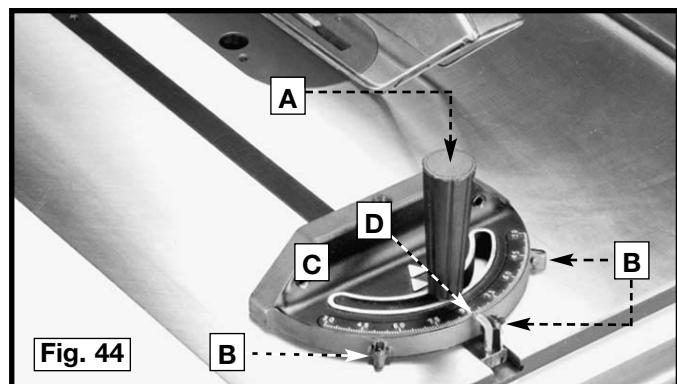

Fig. 44
NOTE: You can store the hex wrenches in the miter gauge handle when not in use. Remove the top cap (A) Fig. 44 for storage.
To rotate the miter gauge, loosen the lock knob (A) Fig. 44 and move the body of the miter gauge (C).
The miter gauge body will stop at 90° and 45° both right and left. To rotate the miter gauge body past these points, move the stop link (D) Fig. 44 up and out of the way.